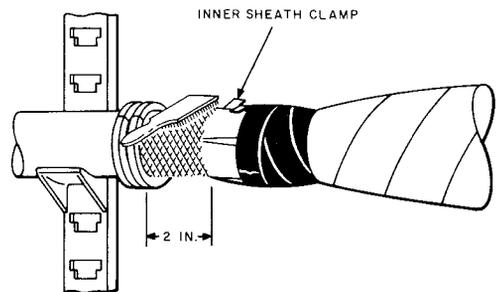

Fig. 19—Scuffing Sheath
3.16 **Caution: Do not scuff the sheath lengthwise as this could produce leak channels.** Thoroughly scuff around the sheath for a distance of about 2 inches, starting at the outside end of the inner sheath clamps (Fig. 19).